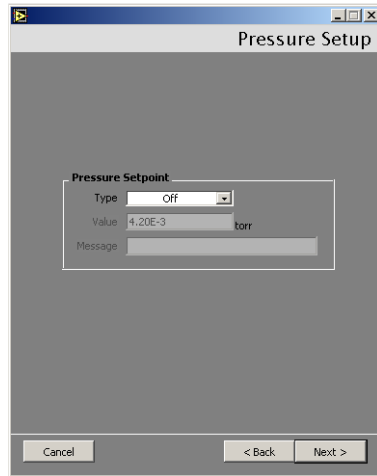

Figure 2-22 Pressure Setup
11. Click **Next** and Figure 2-22 appears.